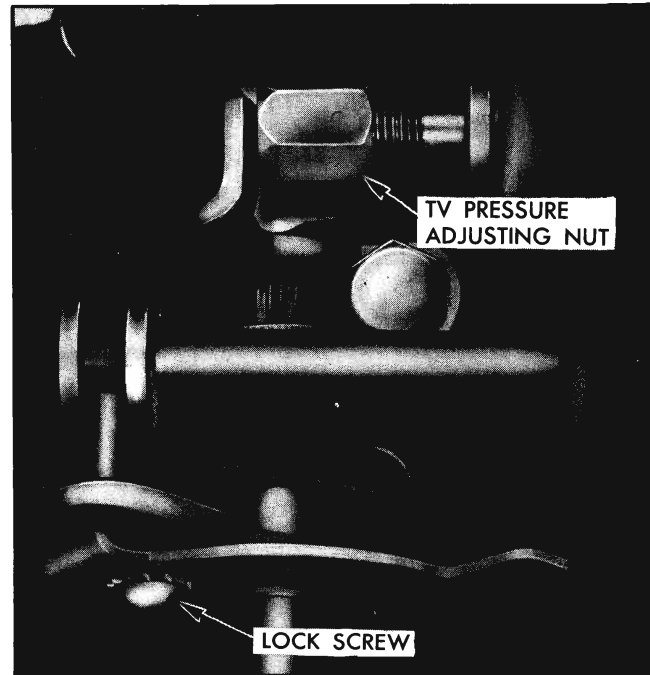

Fig. 7A-80 TV Pressure Adjusting Nut
ance with the "Shift Point-MPH Chart." If pressures are not as prescribed, they may be raised or lowered by adjusting the position of the jam nut on the throttle valve assembly (Fig. 7A-80). To raise TV pressure 3 psi, back off the jam nut one (1) full turn. This increases the dimension from the jam nut to the throttle valve assembly stop. Conversely, tightening the jam nut one (1) full turn lowers TV pressure 3 psi. Smaller pressure adjustments can be made by partial turns of the jam nut. The end of TV adjusting screw has an Allen head so the screw may be held stationary while the jam nut is moved.